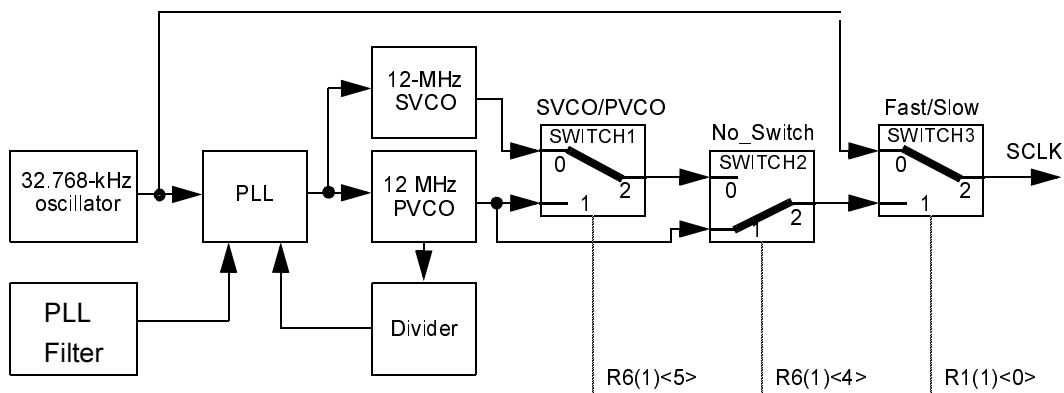

Figure 8 Clock Switching Block Diagram
The clock switch control register R6(1) defines the source of the SCLK for the Z90356 core. The block diagram in Figure 8 represents the clock switch circuit.